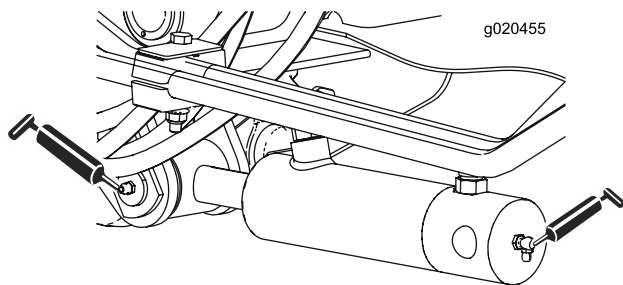

Figure 67
- 2 (each side) lift-arm-cylinder bushings (Figure 67)